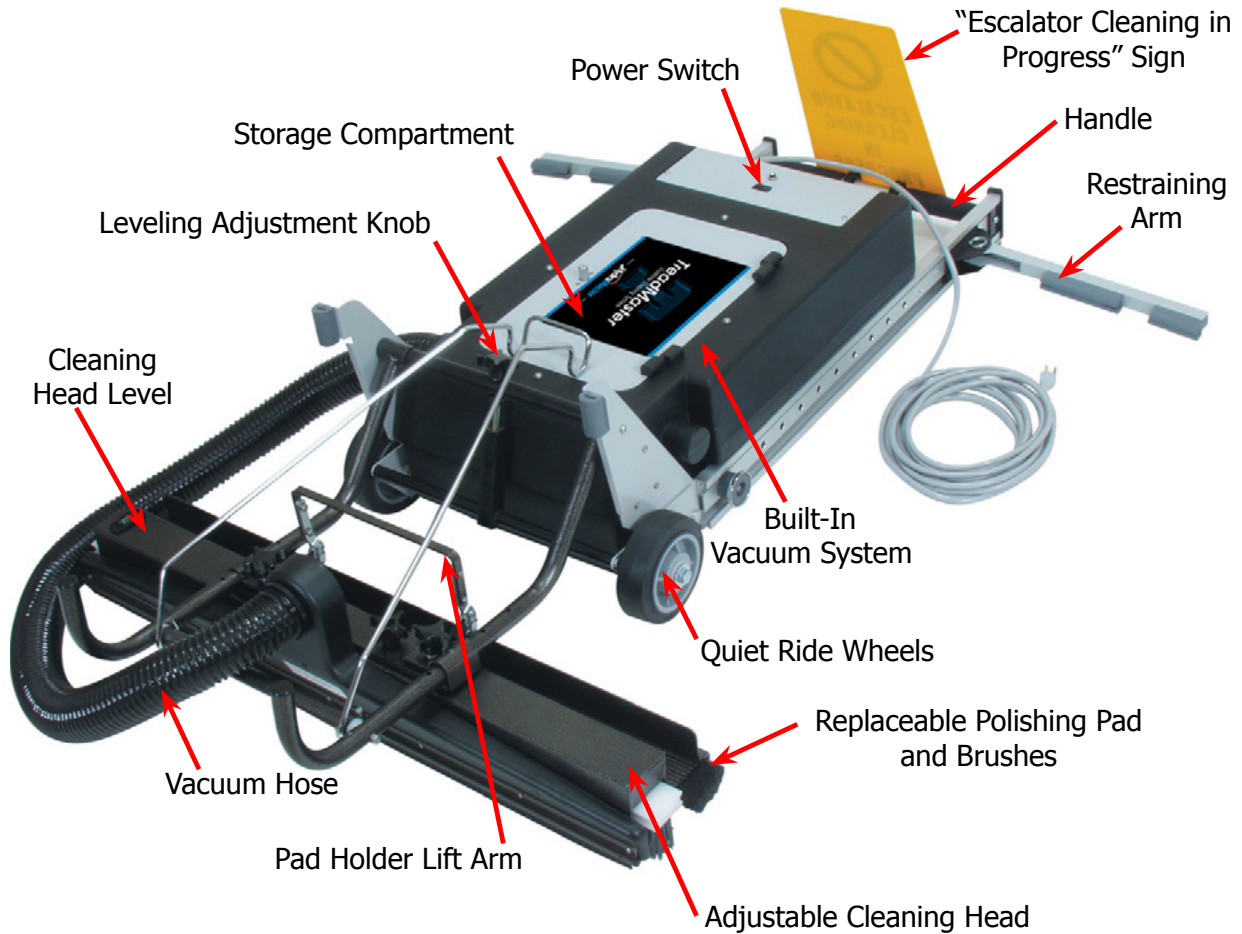

Figure 4. Components of TreadMaster
Make sure that the warning sign is clearly visible at all times during operation of the TreadMaster as indicated in Figure 4. If anyone attempts to use the escalator/moving sidewalk during cleaning operations, serious injury could result.
6. Slide the restraining arms in their channel to position the cleaning head over the tread. Notice that the pin in the end of the arm will fit into one of the holes in the channel, locking the arm into place. Extend the restraining arms to their full locked position (see Figure 4 and Figure 5).
8. Use the leveling adjustment knob to ensure proper contact with the tread surface (see Figure 4). Check the cleaning head level to ensure proper adjustment (see Figure 4 and Figure 6).
5. Turn on the TreadMaster's power switch (see Figure 4).